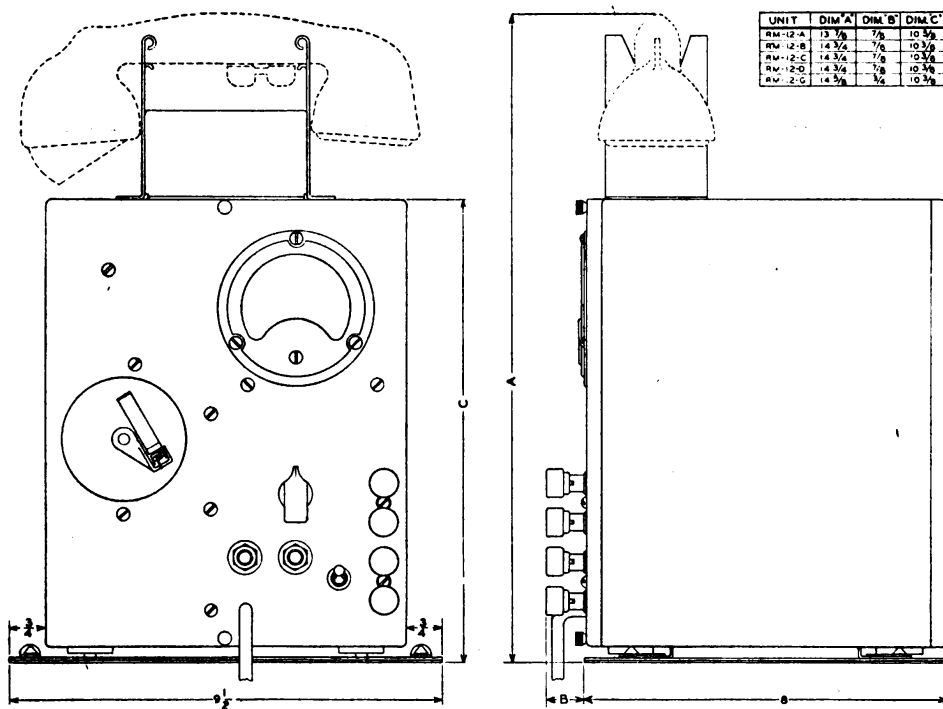

Fig. 11—Remote Control Unit RM-12-(\*)—outline dimensions
a. *Control Unit RM-12-(\*)* is a self contained unit with the dimensions as shown in figure 11. Switching, control, and indicating equipment as well as facilities for external connections which are mounted on the front panel consist of:
- (1) 1 - Volume indicator meter (-10 to +6 db scale)
- (2) 1 - Volume control switch
- (3) 1 - Jack JK-33-A (microphone)
- (4) 1 - Jack JK-34-A (key)
- (5) 1 - Microphone cord
- (6) 1 - Key cord (See Note 6)
- (7) 1 - Local remote switch
- (8) 4 - Binding Posts (line connections)
- (9) 1 - Telephone EE-8-B, crank